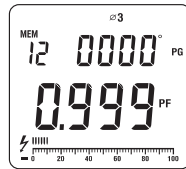

Figure 22
- Press **SELECT** again to choose the third phase  $\varnothing 3$ , see figure 22.